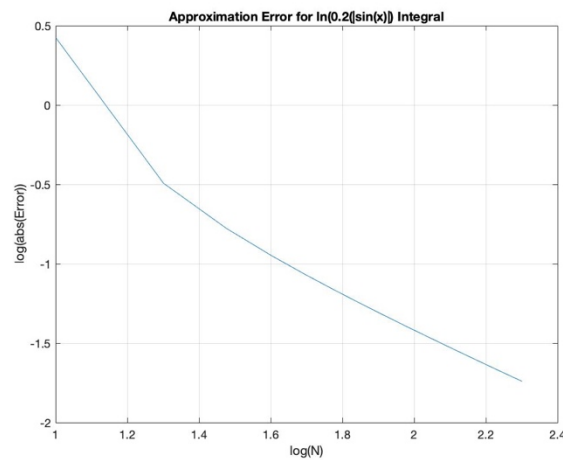

Figure 9 - The log of the error as the log of the number of segments increases
3. (c) Table 4 shows the approximate integral of $\ln(0.2/|\sin(x)|)$ from 0 to 1, and the corresponding error as the number of segments varies from 10 to 200 (selected values shown). Figure 9 shows the log of the error versus the log of the number of segments. As in 3.a. and 3.b., the logarithmically scaled error decreases approximately linearly as the number of segments increases. The true value of the integral is -2.666.